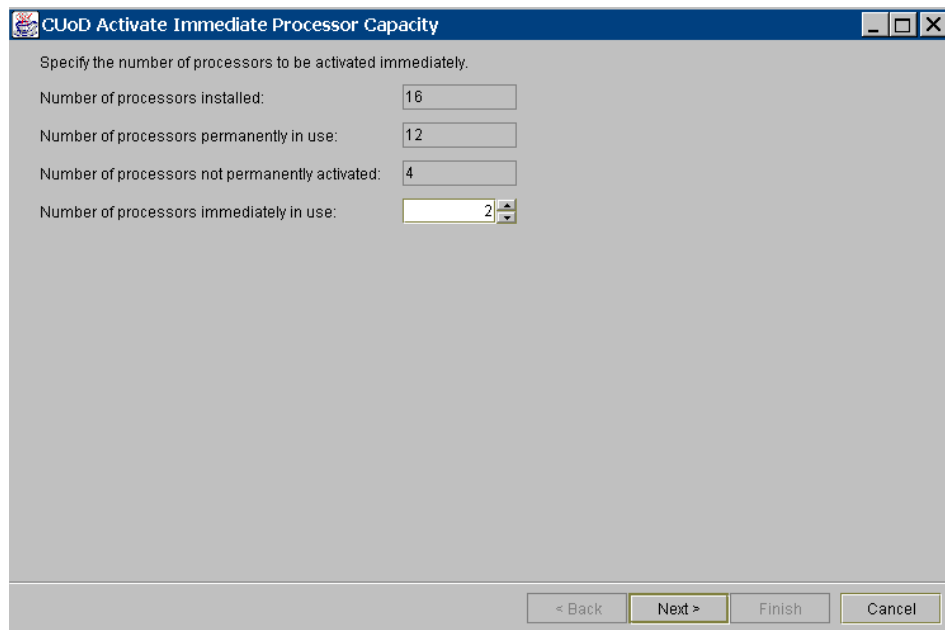

Figure 4-9 CUoD Trial CoD Processor Capacity (Next) screen
2. A menu will appear as shown in Figure 4-9. For processor activation, you can add a minimum of 1 processor and up to the maximum of non-activated CUoD processors available in the system. For memory activation, you can add a minimum of 1 GB and up to a maximum of non-activated CUoD memory available in the system.